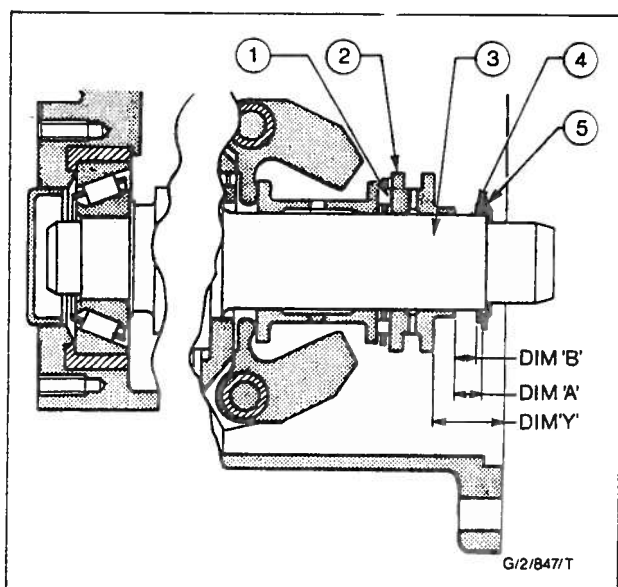

Fig. 21 Checking Dimensions 'Y', 'A' and 'B'
3. Assemble the needle thrust bearing (Fig. 21) and the selected thrust pad onto the camshaft. With the governor mass still in the closed position shown, dimension 'Y' should be between the limits of 19,90 and 20,60 mm (0,783 and 0,811 in). If it is not, then fit the next size thrust pad that will give the required 'Y' dimension.
5. Refer to the thrust pad and spacing ring, specification and select the appropriate spacing ring. Remove the stop disc, place the selected spacing ring (Fig. 21) in position and replace the stop disc. Dimension 'B' should be between the limits of 5,90 and 6,20 mm (0,23 and 0,24 in). If it is not, then fit the next size spacing ring that will give the required 'B' dimension.